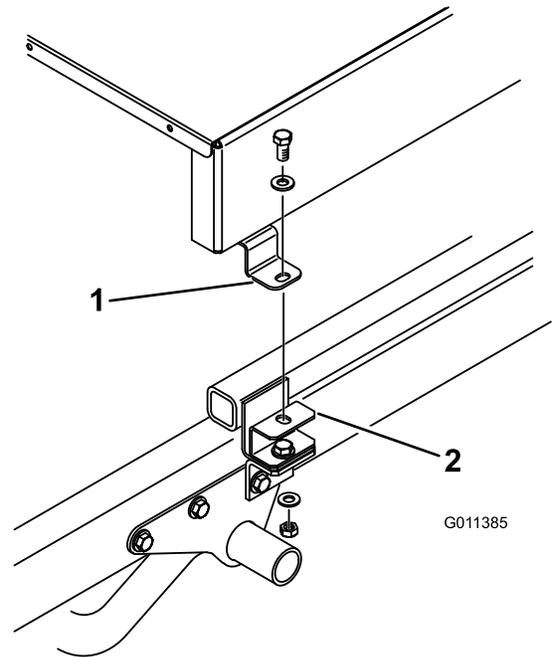

**Figure 10**
- 8. Loosely secure the top of each attachment bracket (Figure 10) or spacer mount (Figure 11) to the mounting tab on each side of the topdresser with a 1/2 x 1 inch cap screw, 2 flat washers, and locknut. Tighten all fasteners.